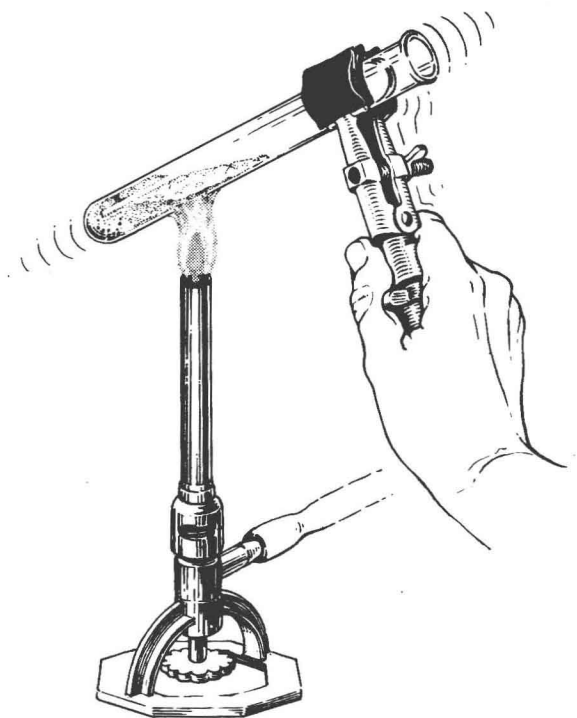

Fig. 3-1. Melting the solid crystals.
- Slowly raise the temperature of about 15 grams (g) of the moth repellent *paradichlorobenzene* in a test tube until it melts. Heat the test tube with the burner adjusted to a low flame. Place a thermometer in the liquid and continue heating until the temperature is between 65°C and 70°C. Continuously move the test tube back and forth through the flame as shown in Fig. 3-1.